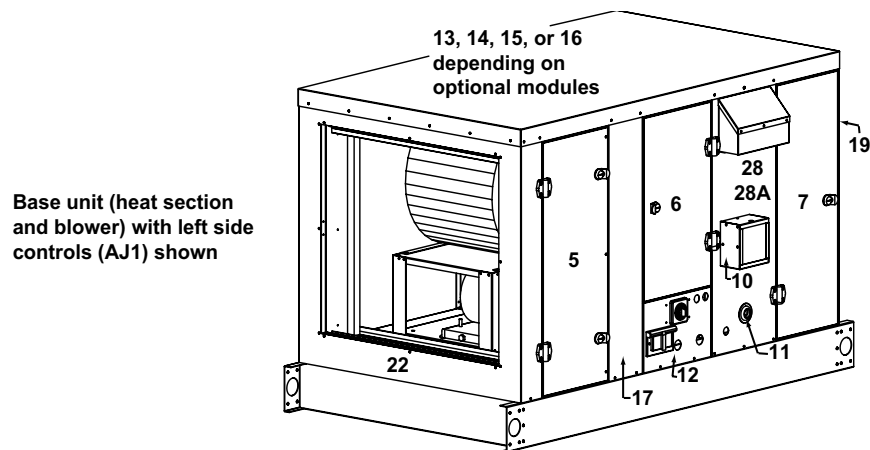

Figure 40. Cabinet Components—Outdoor Models RDH and RXH (Refer to Table 60)
- Cabinet components for outdoor models RDH and RXH are shown in Figure 40 and listed in Table 60.